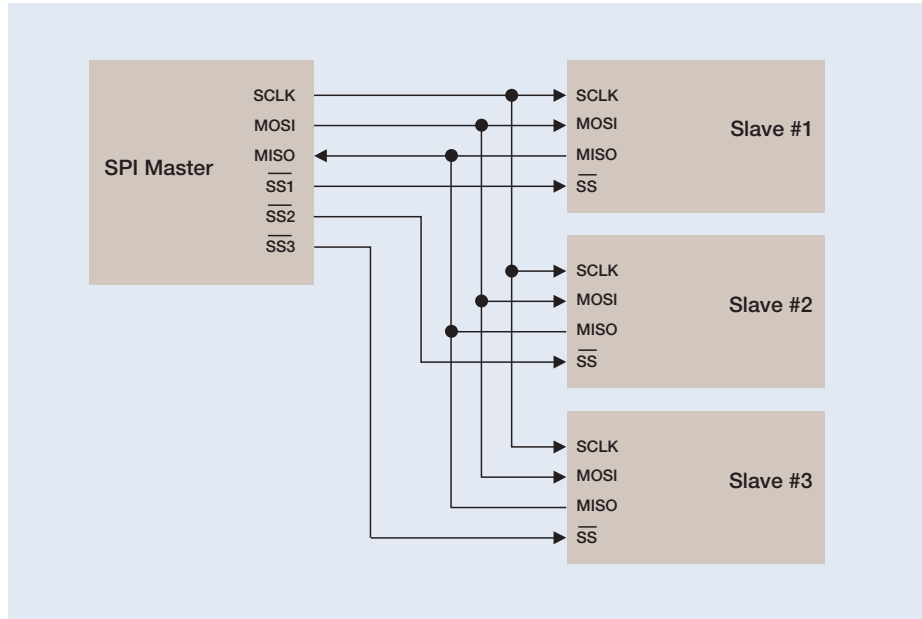

Figure 8. Common SPI configuration.
The SPI bus is a master/slave, 4-wire serial communications bus. The four signals are clock (SCLK), master output/slave input (MOSI), master input/slave output (MISO), and slave select (SS). Whenever two devices communicate, one is referred to as the "master" and the other as the "slave". The master drives the serial clock. Data is simultaneously transmitted and received, making it a full-duplex protocol. Rather than having unique addresses for each device on the bus, SPI uses the SS line to specify which device data is being transferred to or from. As such, each unique device on the bus needs its own SS signal from the master. If there are 3 slave devices, there are 3 SS leads from the master, one to each slave as shown in Figure 8.
In Figure 8, each slave only talks to the master. However, SPI can be wired with the slave devices daisy-chained, each performing an operation in turn, and then sending the results back to the master as shown in Figure 9.